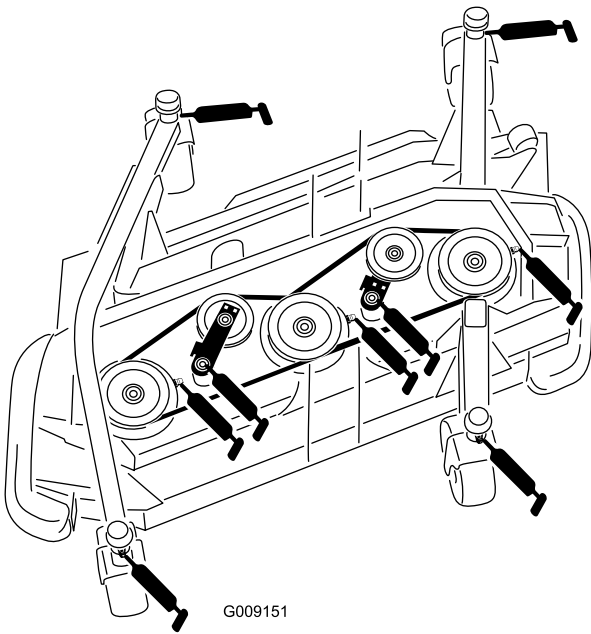

Figure 55
- Castor fork shaft bushing (4) (Figure 55)
- Spindle shaft bearings (3 each) (located on spindle housing) (Figure 55)
- Idler arm pivot bushings (2) (located on the idler pivot shaft) (Figure 55)